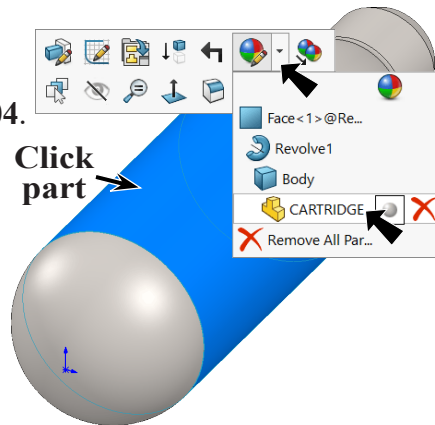

Fig. 16
Step 1. Click the part, expand **Appearance Callout**  on the context toolbar and click **CARTRIDGE** , Fig. 16.